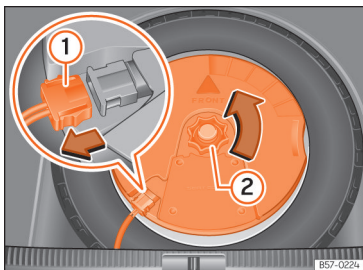

Fig. 222 In the boot: remove the subwoofer.
- Disconnect the subwoofer's speaker cable >>> **Fig. 222 ①**.
- Turn the securing wheel anti-clockwise >>> **Fig. 222 ②**.